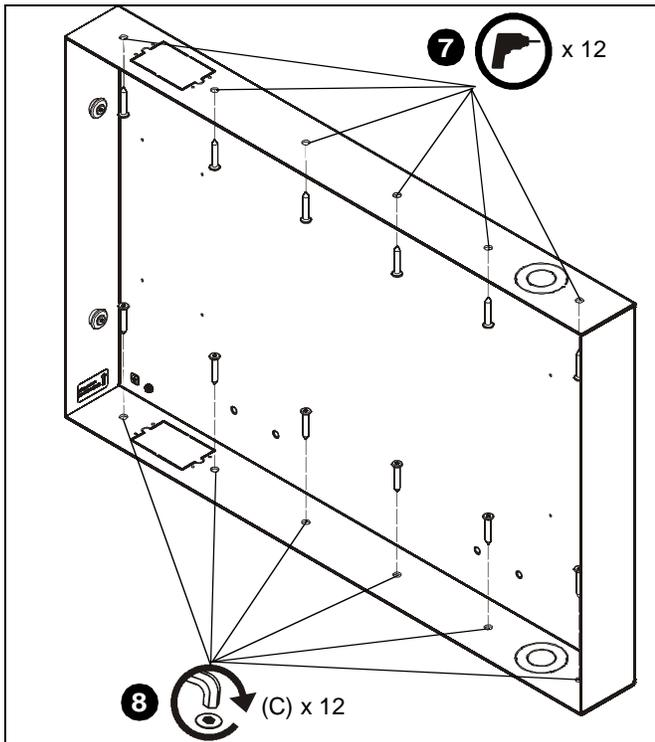

Figure 5
7. Drill eight 3/16" diameter pilot holes in horizontal framing at top and bottom mounting holes. (See Figure 5)
8. Attach the TA500 (A) to horizontal framing using twelve M7 x 40mm Allen head connector screws (C) using an M4 Allen head drill bit (F). (See Figure 5)